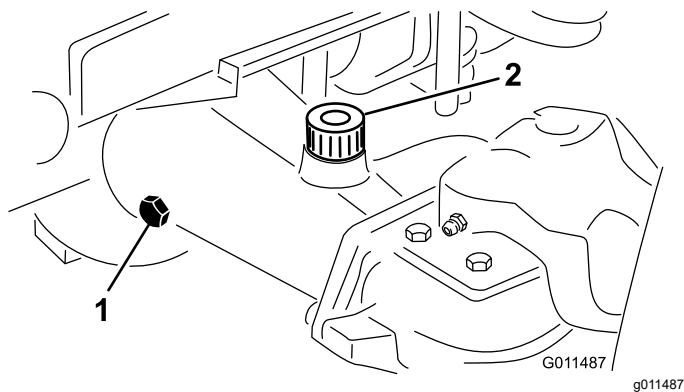

Figure 72
2. Remove a check plug from 1 end of the axle and ensure that the lubricant is up to the bottom of the hole (Figure 72).